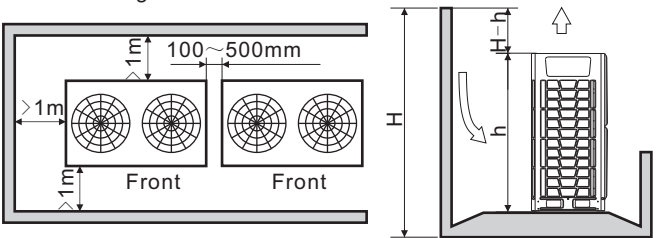

Fig.3.14 Lower than surrounding barriers
6) When outdoor units are lower than surrounding barriers, please see Fig. 3.14; the arrangement is similar with the situation when outdoor units are higher than surrounding barriers, but to prevent the thermal exchange effect is influenced by outdoor hot air, a wind scooper shall be equipped to radiating cover of the outdoor unit, as shown in Fig. 3.14. The height of wind scooper is H-h, and the scooper shall be made by the user in the field.